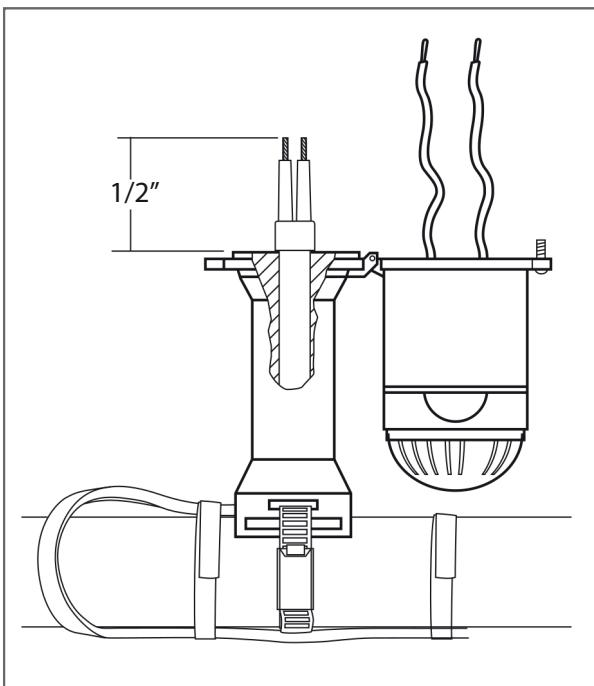

Figure 1.
16. Fasten the end seal stand to pipe with a pipe strap (not provided). DO NOT PINCH THE HEATING CABLE! (Be sure the pipe strap is under heating cable). Loop and tape the extra heating cable to the pipe as shown in Figure 1. Minimum bend radius is 3/4" (20)mm.